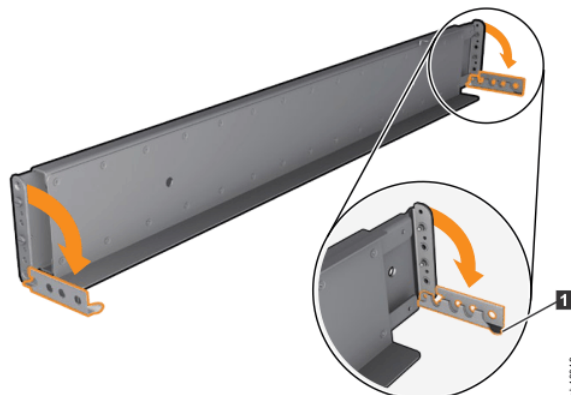

Figure 32. Opening the hinge brackets
6. At each end of the rail, grasp the tab **1** and pull *firmly* to open the hinge bracket (see Figure 32 on page 70).